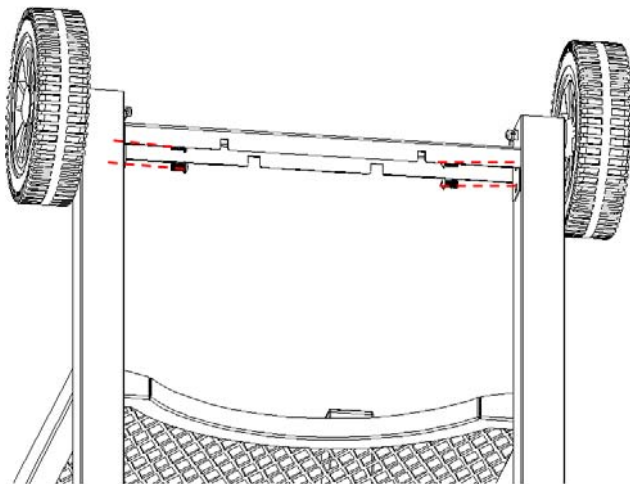

Fig. 7
*Locate:* LP Gas Cylinder Bottom Support Brace, (4) M6x12 bolts
*Procedure:* Attach the LP Gas Cylinder Bottom Support Brace to the Left Rear Leg #3 and Left Front Leg #4 using (4) M6x12 bolts as shown as Fig. 7.